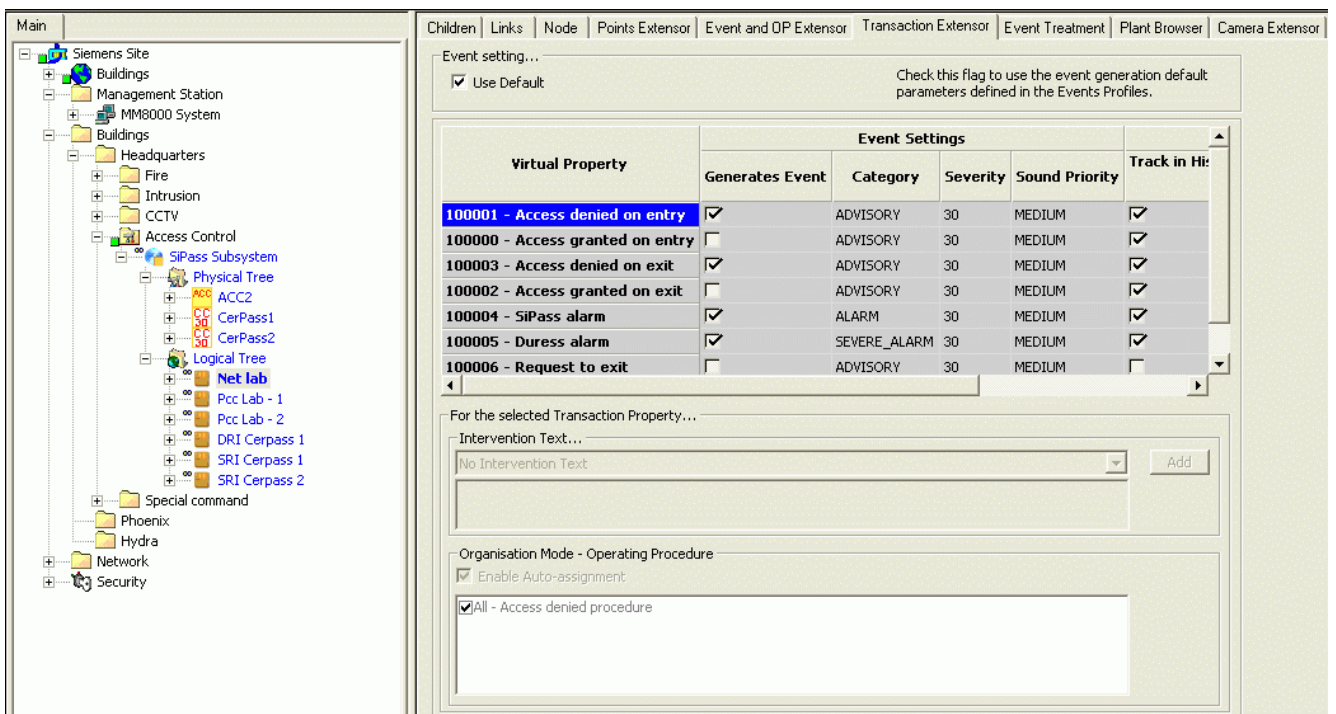

Fig 13 Customising individual SiPass log options
- In the Transaction Extensor tab of each individual point and transaction, customise the log options (e.g.: enabling/disabling properties as in Fig 13)